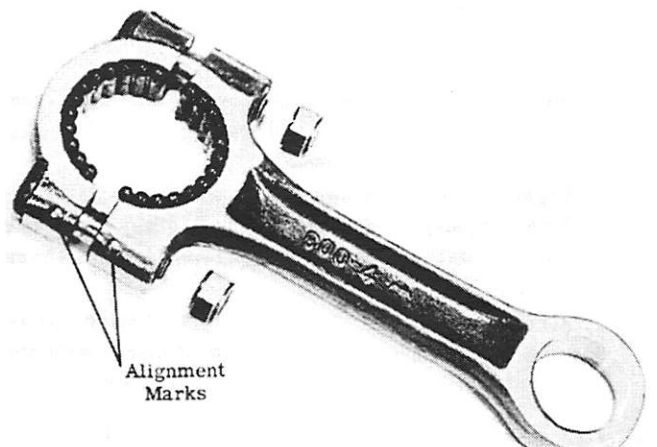

Figure 13. Connecting Rod Assembly Ready to Install
3. Place roller bearings around both sides for reassembly -- 13 on one half, 12 on other. (Figure 13)